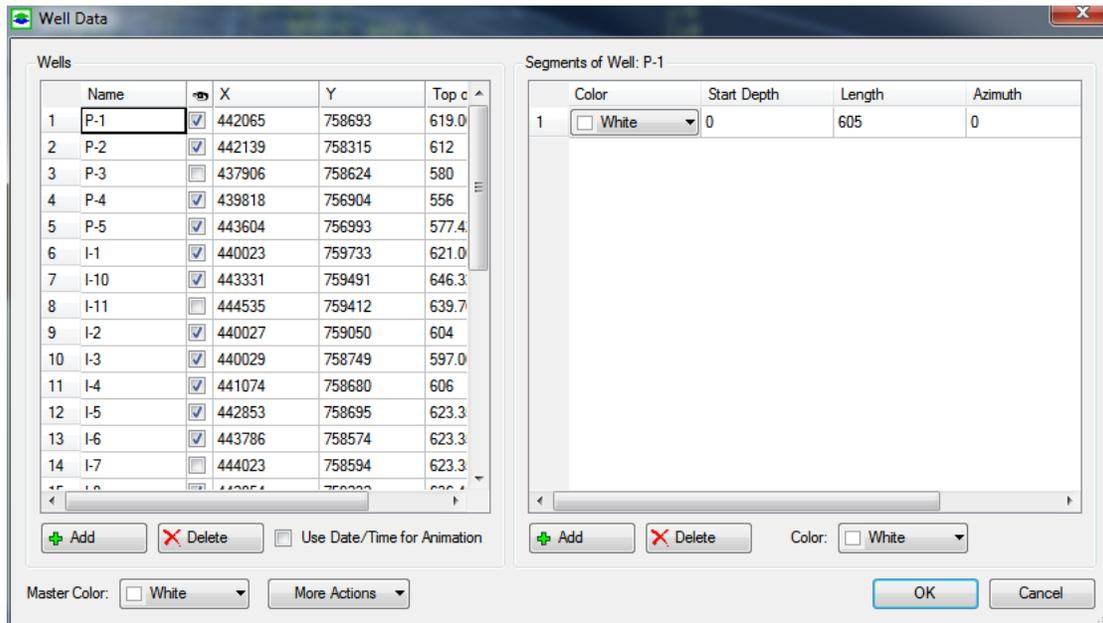

Figure 2.17. The Well Data dialog box
2. Select *Create New Object* from the popup menu to display the *Well Data* dialog box (Figure 2.17), where you can import Well files and/or edit Well data. The options of the *Well Data* dialog box are listed below.
- *Edit Data*: Click the button to open the *Well Data* dialog box (Figure 2.17) where you can edit the well data.